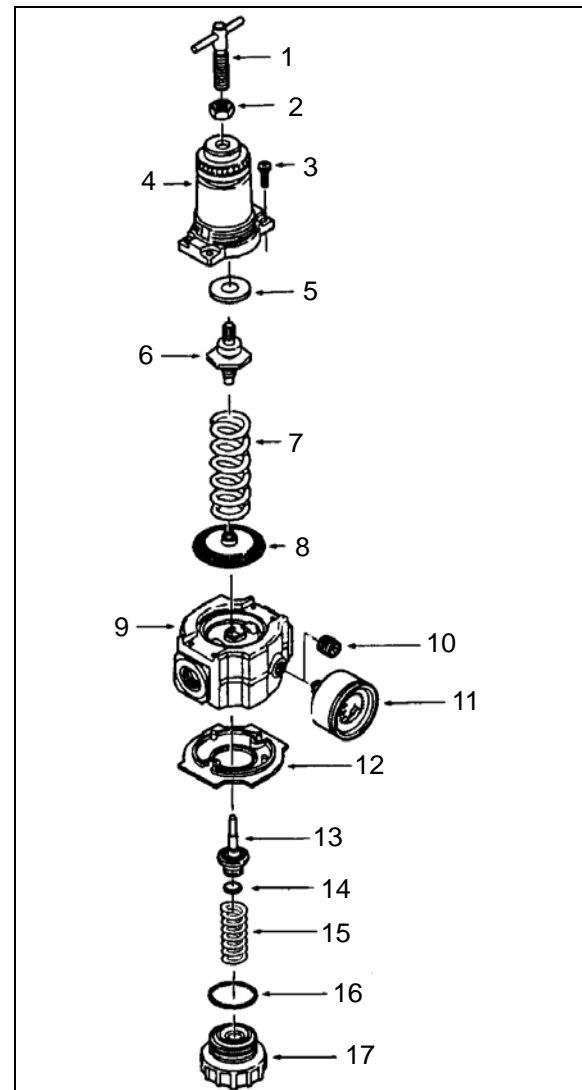

FIGURE 57: REGULATING VALVE
1. Before turning on system air pressure, release jam nut (2, Fig. 57) then turn regulator adjustment counterclockwise until all load is removed from the regulating spring.
5. Tighten jam nut (2, Fig. 57) to lock pressure setting.
1. Shut off inlet pressure and reduce pressure in inlet and outlet lines to zero. Turn regulator adjustment (1, Fig. 57) counterclockwise until all load is removed from regulating spring. Regulator can be disassembled without removal from air line.
1. Lubricate O-ring (14 and 16, Fig. 57), valve stem (13, Fig. 57), tip of adjusting screw (1, Fig. 57), and the outer circumference and both sides of the thrust washer (9, Fig. 57) with a light coat of good quality O-ring grease.